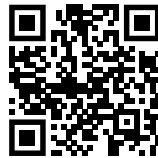

Fig. 60
- Hapni Liebherr SmartMonitoring Dashboard. (shihni Fig. 60)